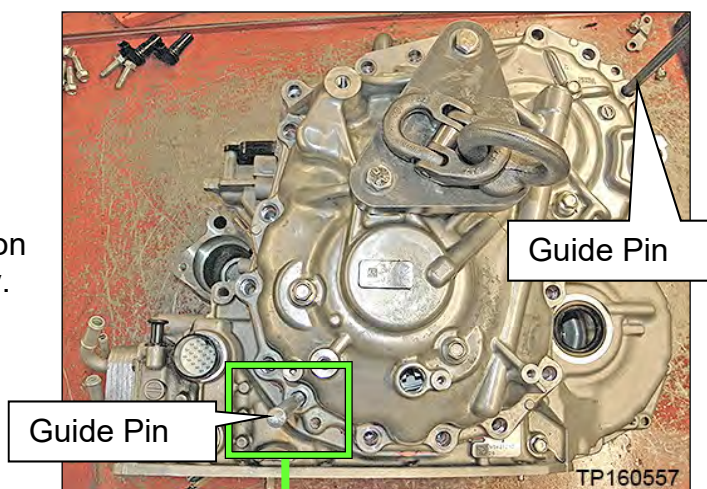
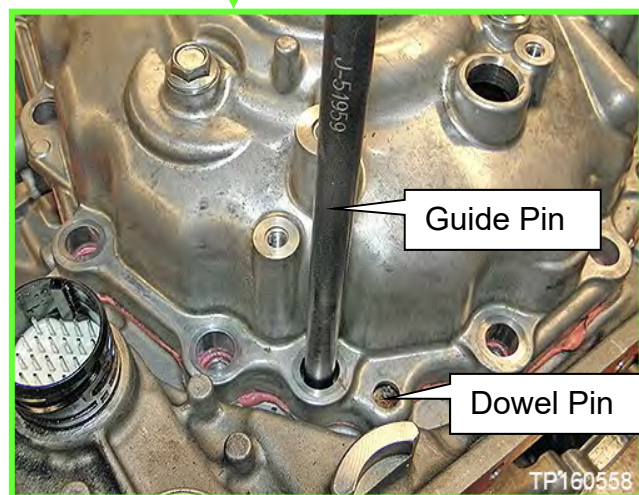

Figure 74
Figure 75
53. Install the two alignment Guide Pins (J-51959 - Guide Pins) as shown in Figure 74 and Figure 75.
- Guide Pins must be placed next to dowel pins (Figure 75).